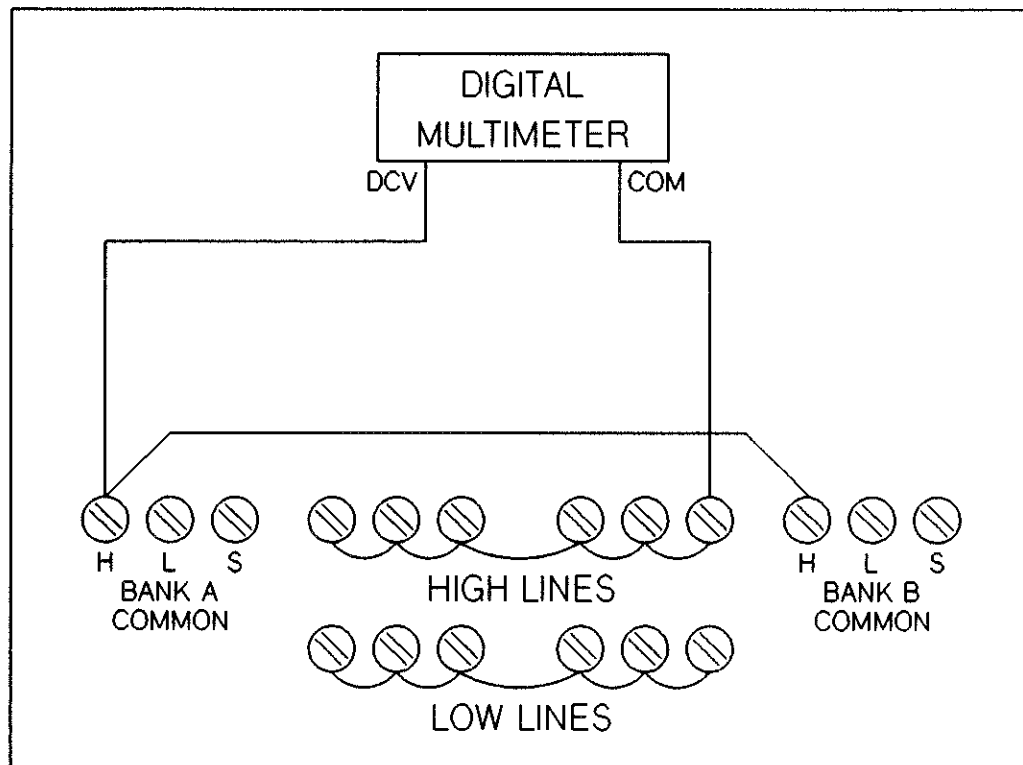

Figure 10-8 HP 44711A HIGH Channel Test Set-Up
2. On the test fixture, connect the multimeter DCV lead to the Bank A HIGH common test point. Connect the multimeter COM lead to the shorted HIGH connections of the channels. Short the Bank A and Bank B HIGH common test points together. Set the multimeter to measure two-wire ohms. The connections are shown in Figure 10-8.